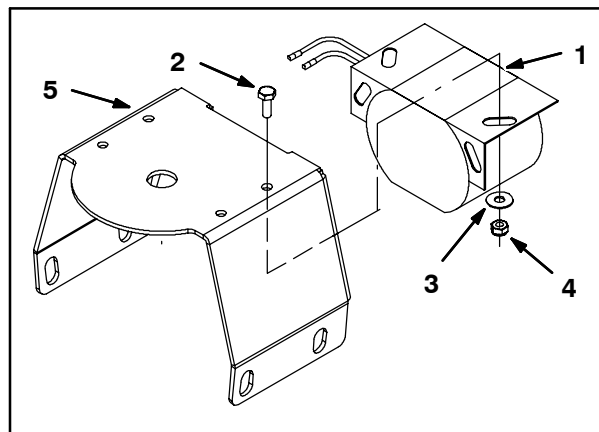

FIG. 1
1. Use two hex screws (2), two flat washers (3), and two hex nuts (4) to install the backup alarm (1) onto the bracket (5). Refer to Fig. 1.